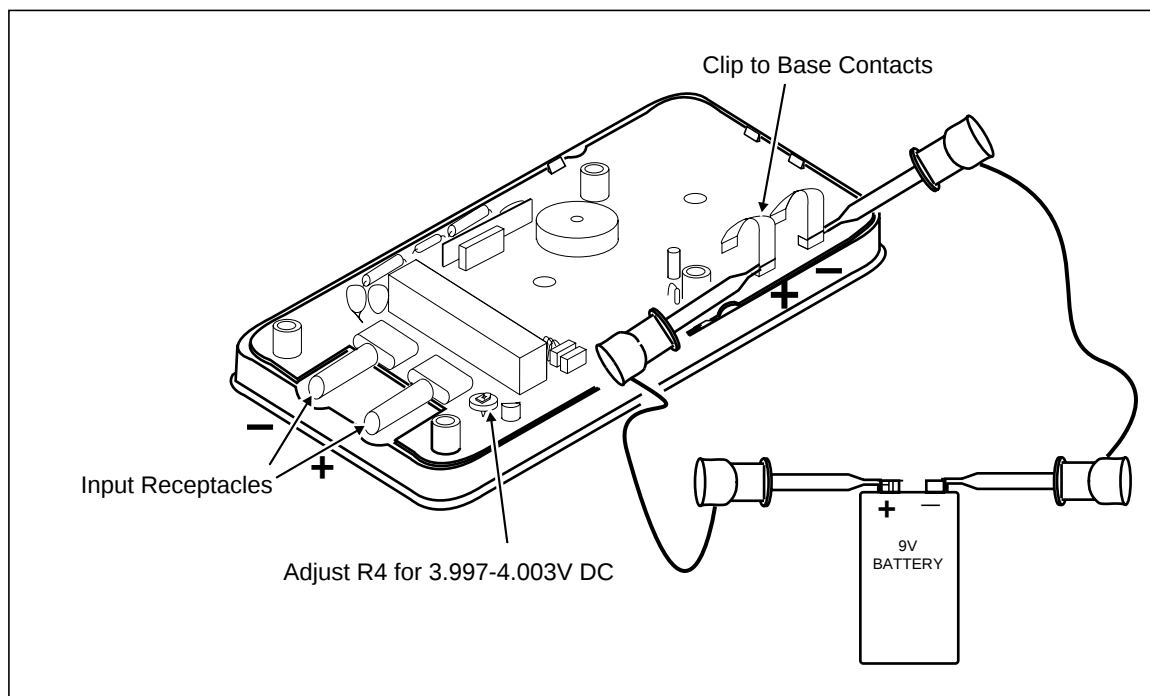

Figure 3-4. Calibration Adjustment
The meter display should read between 3.997-4.003V. If it does not, adjust R4 (see Figure 3-4) as described below.
3. Observing correct polarity, connect a 9V battery to the battery contacts using easy hook jumpers or alligator clip leads (see Figure 3-4).
*To avoid stretching or bending the battery contacts, connect leads to the base of the contacts as shown in Figure 3-4.*
7. Adjust R4 (see Figure 3-4) so that the meter display reads between 3.997 and 4.003V.
3. Observing the correct polarity, connect a known good 9V battery to the battery contacts using easy-hook jumpers or alligator clip leads. Refer to Figure 3-4.
*To avoid stretching or bending the battery contacts, connect the leads to the base of the contacts, as shown in Figure 3-4.*